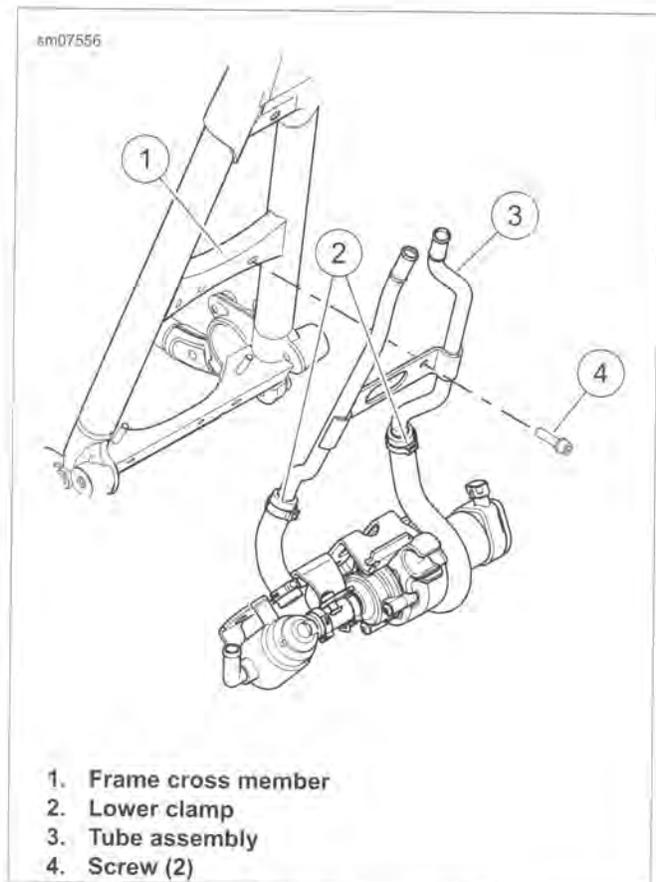

Figure C-7. Coolant Down Tubes
3. See Figure C-7. Remove lower hose clamps (2). See C.5 COOLING SYSTEM REPAIR, Crimp Clamps.
4. Remove screws (4). Remove tube assembly.